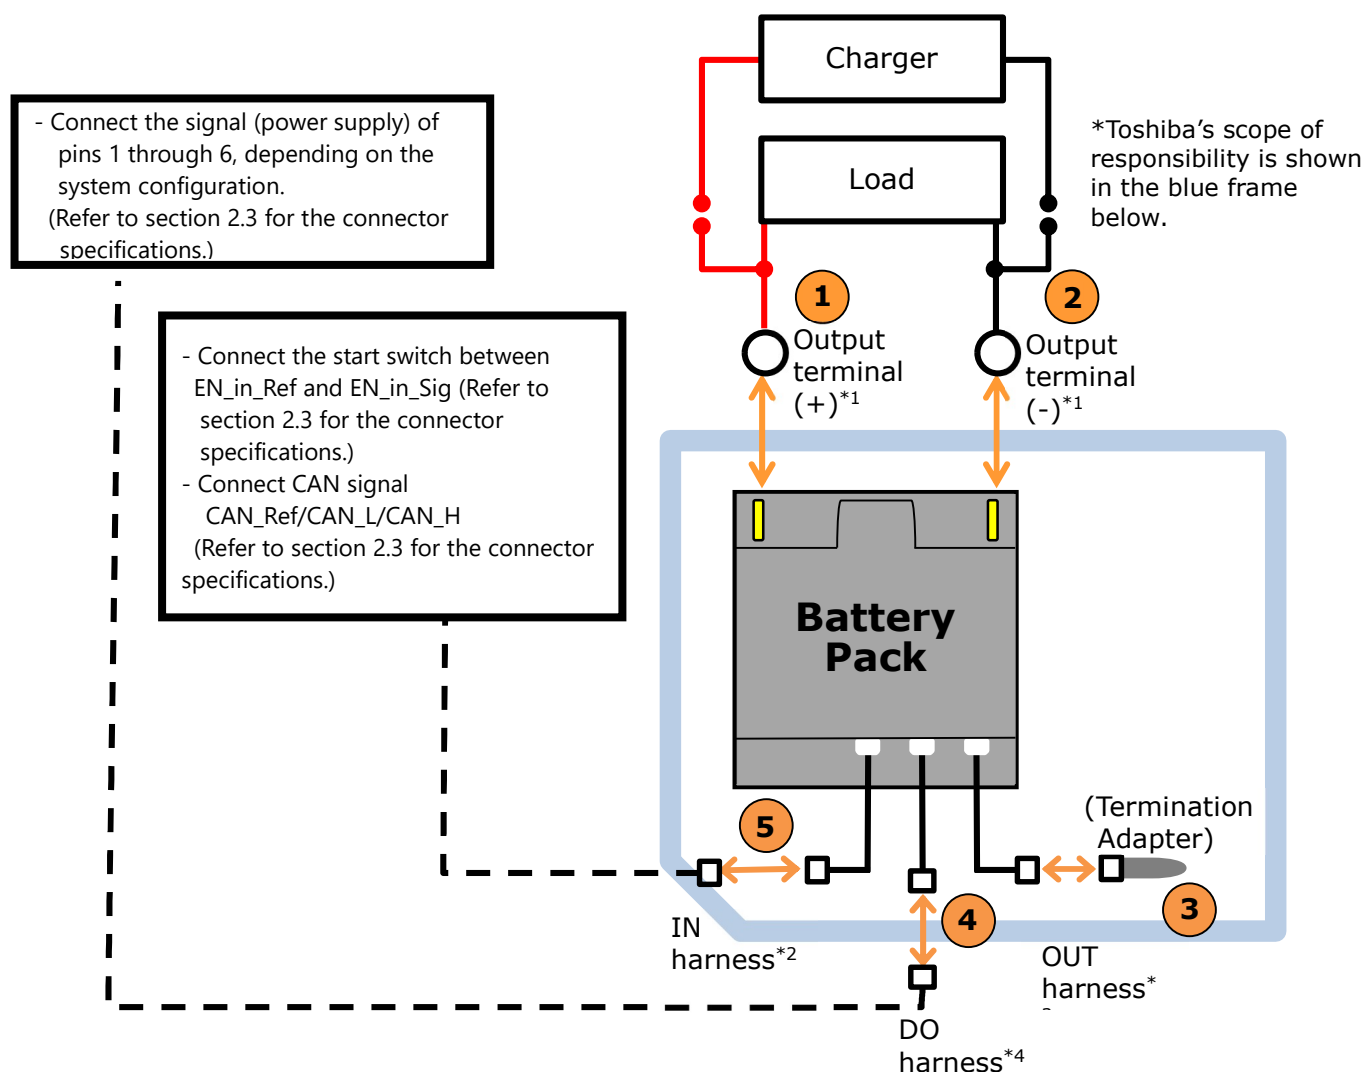

Figure 6-4 Connection Configuration with Both CAN Communication and DO Output
Please connect each device from ① to ⑤ in order as shown in Figure 6-4.